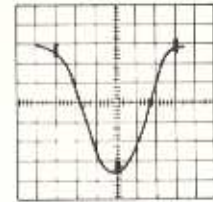

Fig. 18
4. Adjust the cores of I.F. Transformer T203 and T204 so that the output is maximized. Refer to Fig. 18.